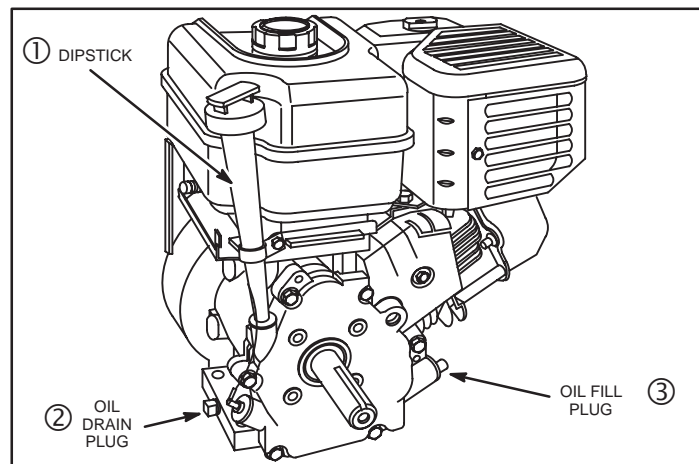

Fig. 1
- Remove oil drainplug and capture waste oil in an approved container, Fig. 1. Dispose of waste oil properly. Replace oil drainplug and tighten. Oil may be drained from oil fill tube by tipping engine with air cleaner or spark plug side up.